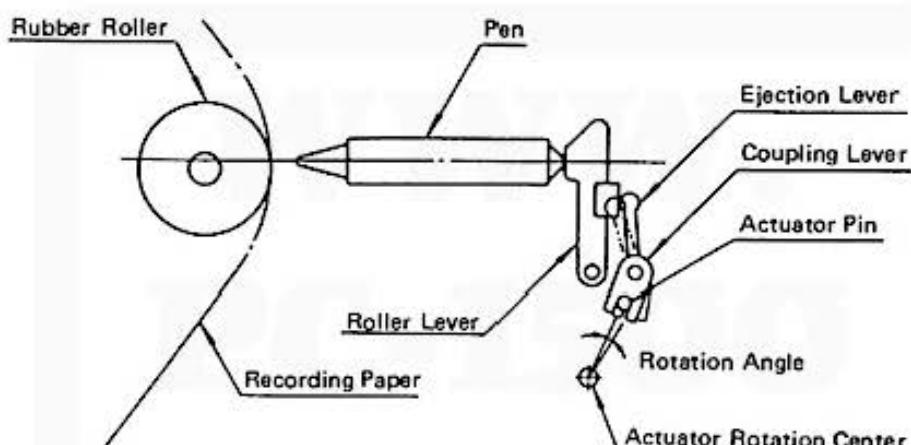

Fig. 4
<p>5) Wind the wire around the pulley (G), then thread through the hole in the side plate.</p> <p>6) Now, set the slider unit to a distance of 5mm from the right (magnet side), then thread the wire through the hole in the slider unit as shown in Fig. 4.</p>  <p>Fig. 4 Hold the wire at the point (A) and stretch the wire towards the direction (H), then adjust the location of the slider unit so that the distance between the side plate and the slider unit should become about 5mm.</p>